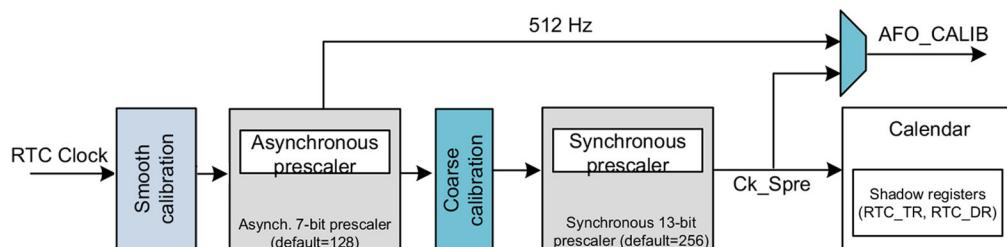

Figure 18.3: The structure of the RTC clock distribution
- It is not possible to check the calibration result, as the 512Hz output is before the calibration block (see Figure 18.3⁴). You can check the calibration in some STM32 MCUs, as the 1Hz CK_Spre output is after the coarse calibration block. Refer to the reference manual for your MCU.
When the reference clock detection is enabled, both *asynchronous* and *synchronous* prescalers must be set to their default values: 0x7F and 0xFF. When the reference clock detection is enabled, each 1Hz clock edge is compared to the nearest reference clock edge (if one is found within a given time window). In most cases, the two clock edges are properly aligned. When the 1Hz clock becomes misaligned due to the imprecision of the LSE clock, the RTC shifts the 1Hz clock a bit so that future 1Hz clock edges are aligned. The update window is three `ck_calib` periods (`ck_calib` is the output of the coarse calibration block - see **Figure 18.3**).